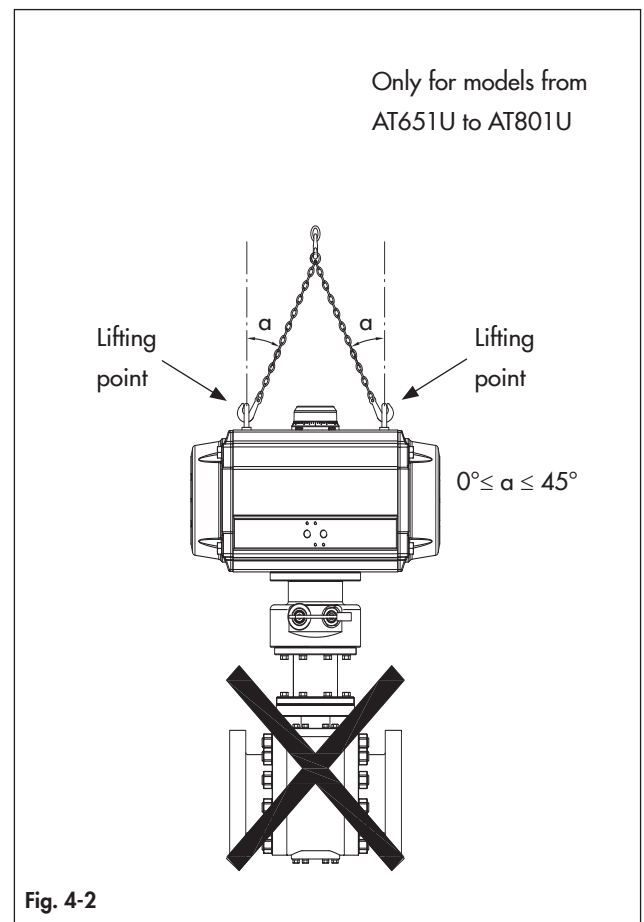

Fig. 4-2
– For RP models bigger than AT651U two threaded holes are available to lift the actuator with block by means of eyebolts or similar components as shown in Fig. 4-2.